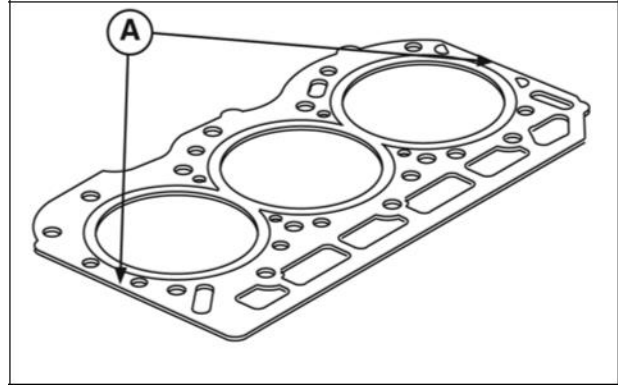

Figure 29
1. Place cylinder head gasket over alignment dowels on cylinder block (Figure 29).